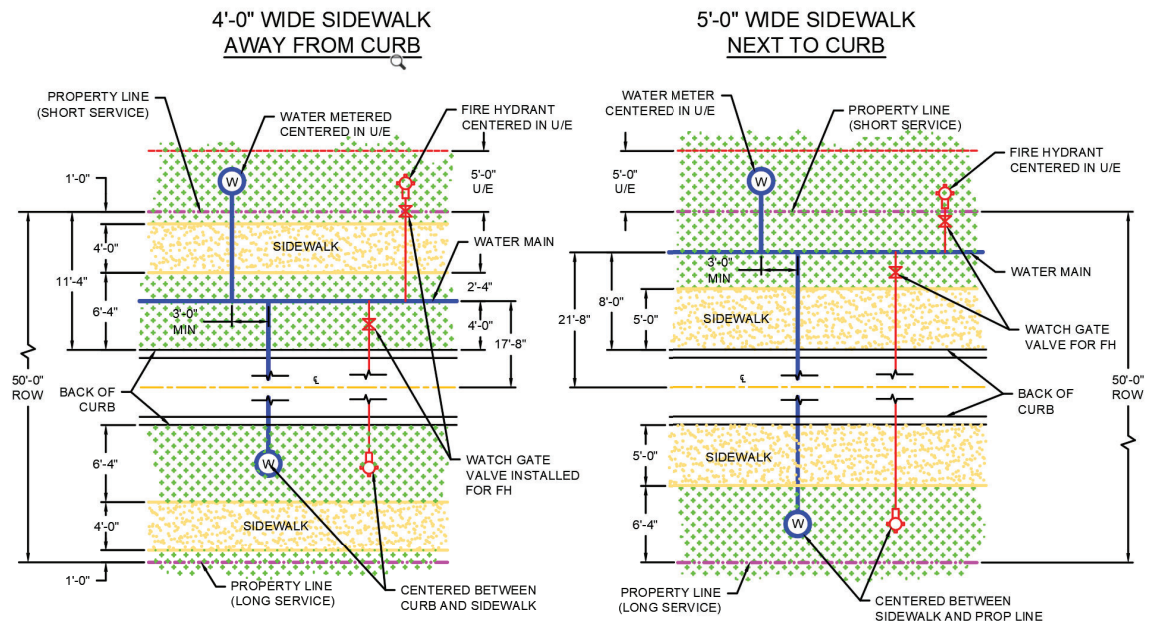
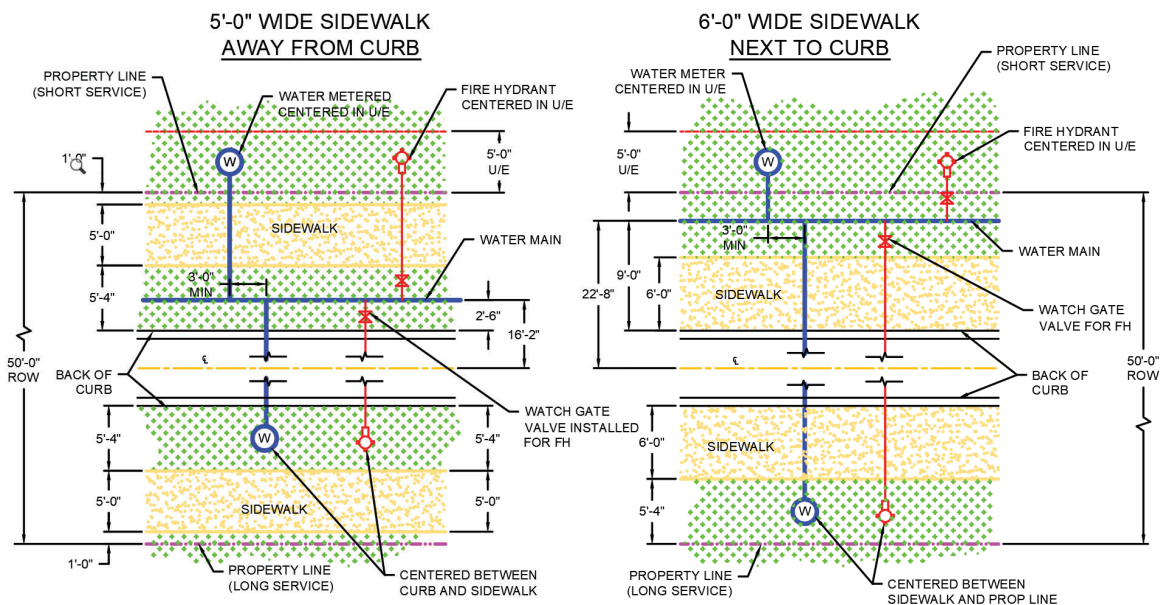

Figure 2 - Typical Residential Development Water Main Installation
Figure 3 - Typical Section Line & Commercial Industrial Water Main Installation
- 3.9. Water mains must be installed as shown in Figure 2 in residential developments. Water mains installed along section line roads or in industrial or commercial developments must be installed as shown in Figure 3. Exception to this installation must be expressly noted and approved by the Private Development Manager.